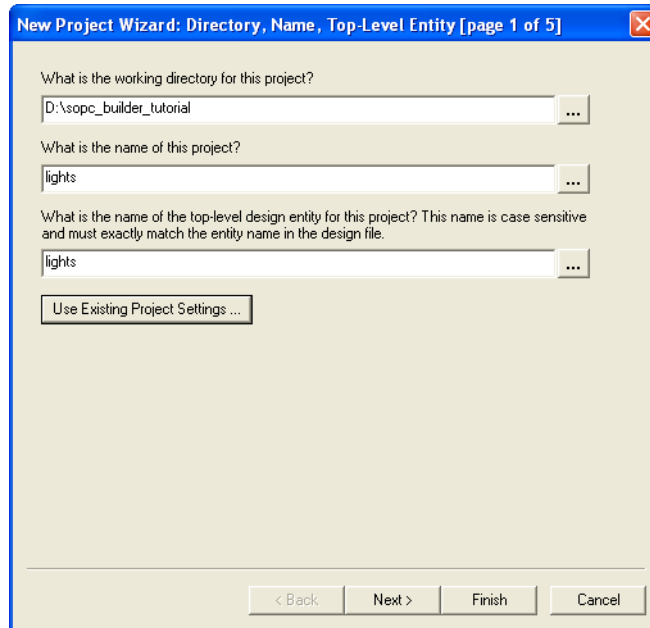

Figure 3. Create a new project.
1. Create a new Quartus II project for your system. As shown in Figure 3, we stored our project in a directory called *sopc_builder_tutorial*, and we assigned the name *lights* to both the project and its top-level design entity. You can choose a different directory or project name, but be aware that the SOPC Builder software does not permit the use of spaces in file names. For example, an attempt to use a directory name *sopc builder tutorial* would lead to an error. In your project, choose the EP2C35F672C6 chip as the target device, because this is the FPGA on the DE2 board.
Figure 18 shows a top-level VHDL entity that instantiates the Nios II system. This entity is named *lights*, because this is the name we specified in Figure 3 for the top-level design entity in our Quartus II project. Note that the input and output ports of the entity use the pin names for the 50-MHz clock, *CLOCK_50*, pushbutton switches, *KEY*, toggle switches, *SW*, and green LEDs, *LEDG*, that are specified in the DE2 User Manual. Type this code into a file called *lights.vhd*. Add this file and all the *.vhd files produced by the SOPC Builder to your Quartus II project. Also, add the necessary pin assignments on the DE2 board to your project. The procedure for making pin assignments is described in the tutorial *Quartus II Introduction Using VHDL Design*. Note that an easy way of making the pin assignments when we use the same pin names as in the DE2 User Manual is to import the assignments given in the file called *DE2_pin_assignments.csv* in the directory *DE2_tutorials\design_files*, which is included on the CD-ROM that accompanies the DE2 board and can also be found on Altera's DE2 web pages.